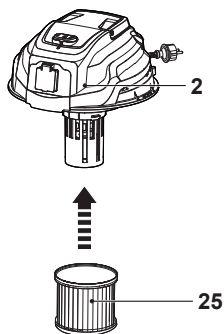
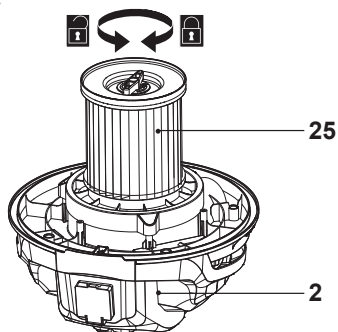

Fig. 10
Fig. 20
- > Assemble the dust filter (25) onto the motor unit (2) (Fig. 10). Ensure the filter sits properly in position. Refer to Fig. 20.
Use the cartridge filter (25) to collect particles that are not already caught by the dust bag (26). Always assemble the cartridge filter (25) onto the motor unit (2) for dry vacuuming operations (Fig. 20). Operating the product without the cartridge filter (25) can damage the motor unit.
- > Inspect the cartridge filter (25) regularly. Replace it with a new one if necessary.
- > Wash the cartridge filter (25) frequently, with clear water and let it dry in air. Do not wait until the filter is completely dirty. We recommend inspecting the filter when the product does not reach a sufficient suction power.